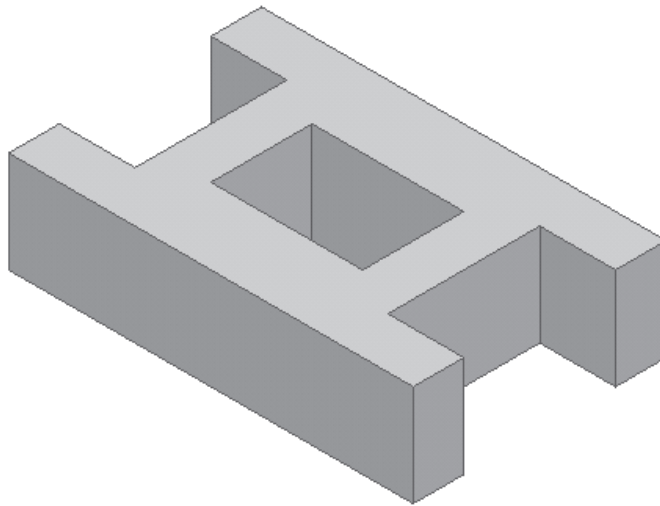

Figure 3-53 Resulting model created by extruding the profile
- Open the sketch from the *c03* folder and extrude it to a distance of 20 mm using the **Extrude** tool, refer to Figure 3-53.
5. Choose the **OK** button to create the model and exit the **Extrude** tool. The extruded model is shown in Figure 3-53.